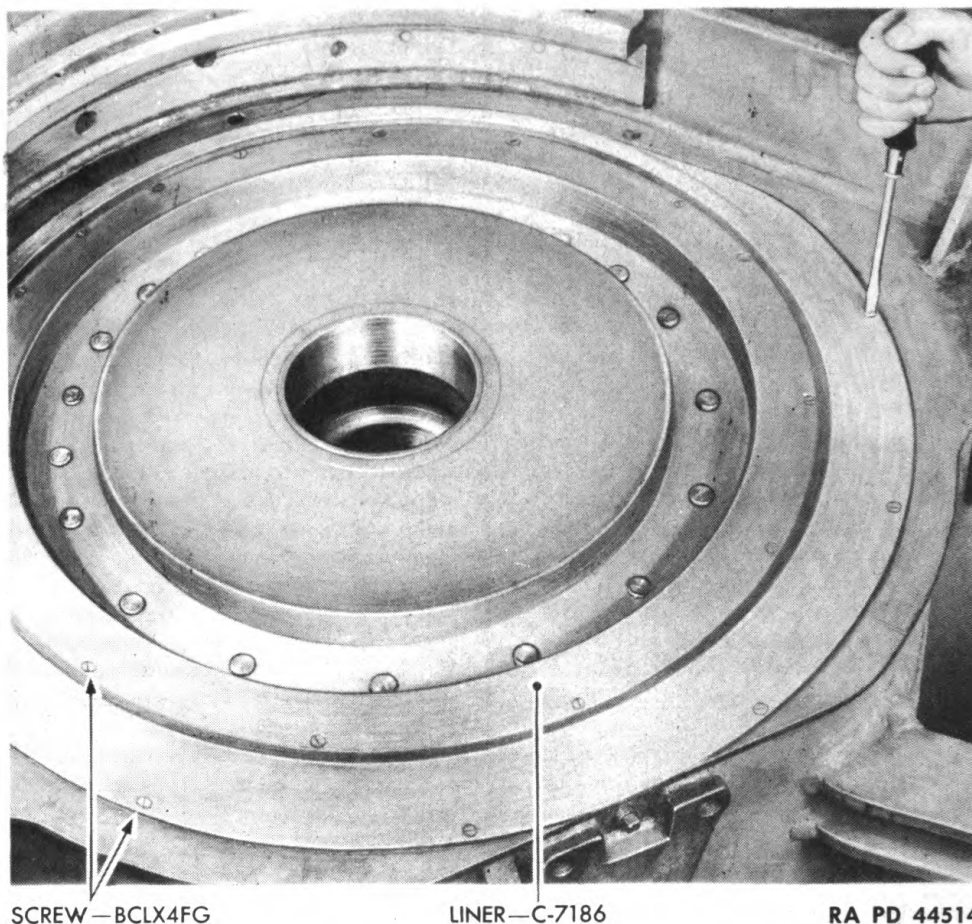

Figure 211—Removing Bottom Carriage Circular Liner
(1) Remove 24 screws BCLX4FG from brass circular liner C7186 (fig. 211).